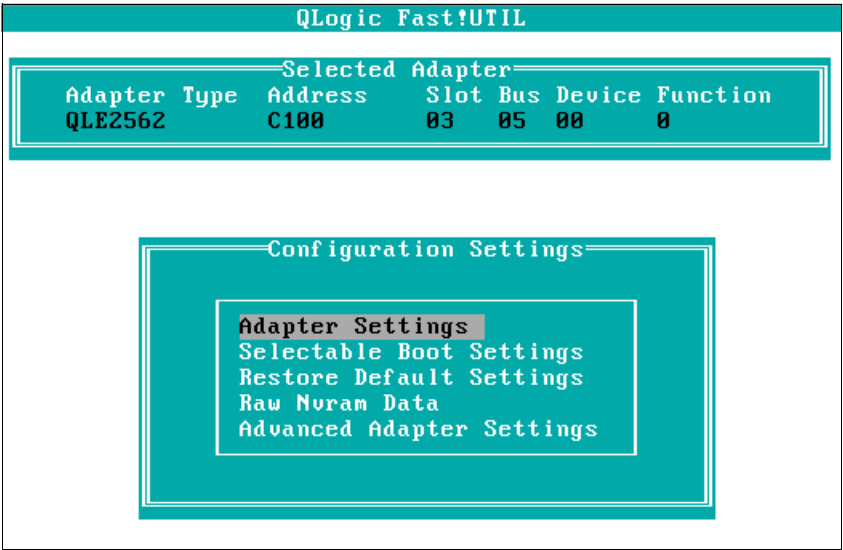

Figure 3-14 Adapter Settings
6. Select **Host Adapter Settings**, as shown in Figure 3-14.